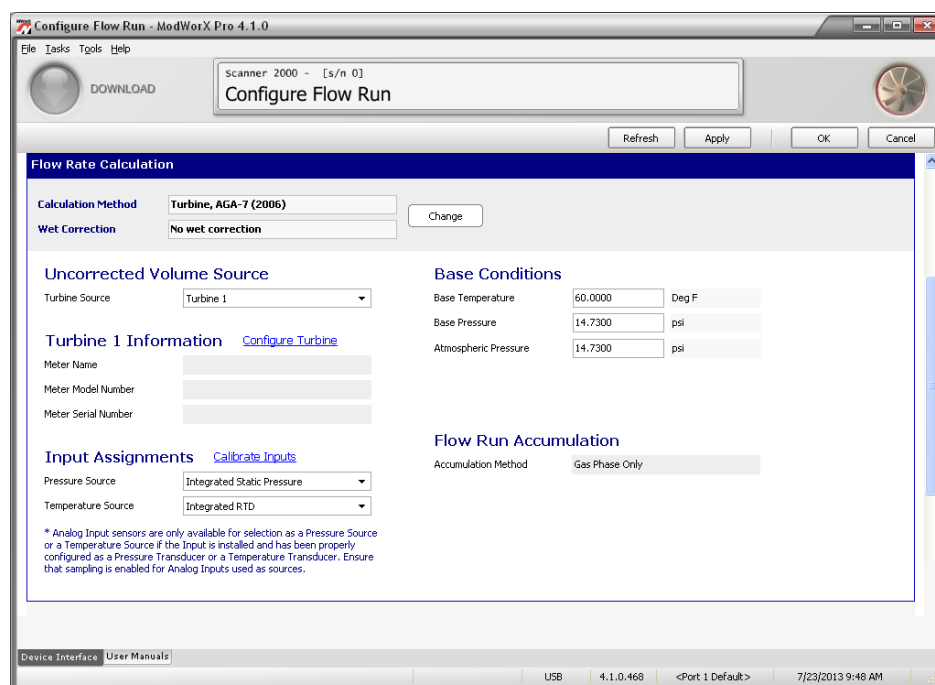

Figure 4.11
- Under Uncorrected Volume Source, select the turbine source (Turbine 1), as shown in Figure 4.11, page 62. If an optional expansion board is installed in a Scanner 2000, two turbine inputs are available for selection. If a Scanner 2200 is installed, these turbine inputs will be displayed without an additional expansion board.